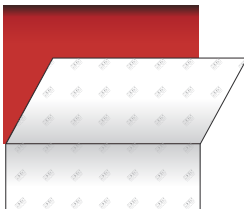

Figure08
- ▶ Remove the top hinge and continue removing the liner, depending on the surface pattern (cf. paragraphs below). (FIG. 08)